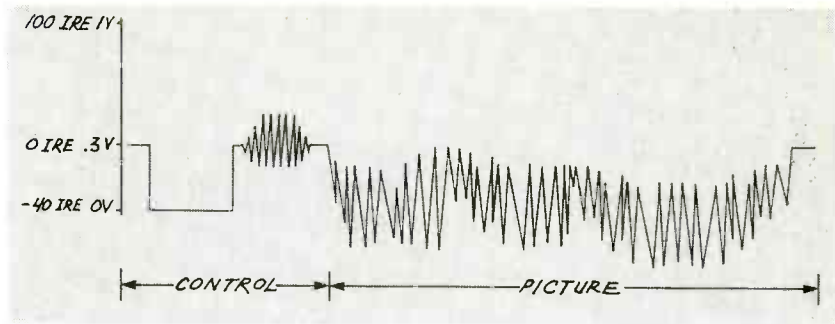

FIG. 3—HERE'S WHAT NORMAL SYNC and suppressed video look like.
- Normal sync and suppressed video (Fig. 3).